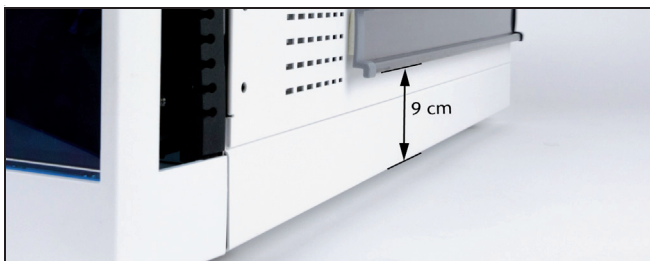

Fig. 3 Position of the carrier rail
2. Position the carrier rail flush with the back panel in 9 cm height (Fig.3 alike).